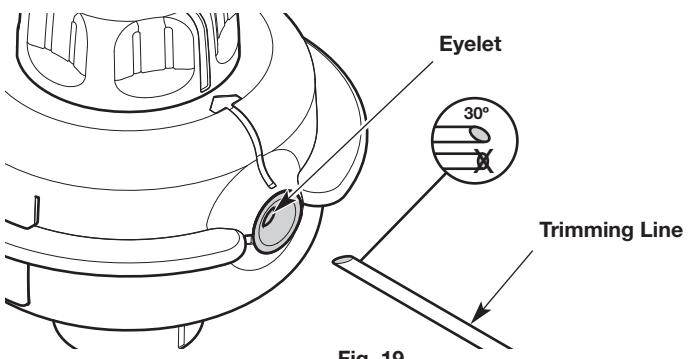

Fig. 19
2. Cut two 6-foot (1.8 m) lengths of new trimming line. Cut one end of each line at a 30 degree angle (Fig. 19).
4. Insert one of the lines into an eyelet (Fig. 19).
- Insert the end that was cut at a 30 degree angle (Fig. 19).